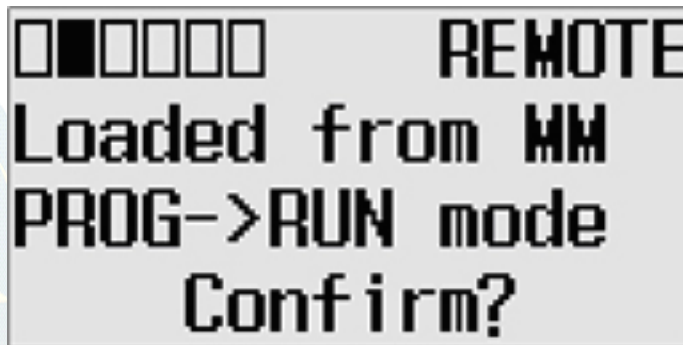

Figure 9 Run Mode Confirm Screen
8. If the controller is already in a non-executing mode, once the load from MM is complete, the “Change to Run Mode” screen will appear (refer to Figure 9 Run Mode Confirm Screen).
9. If it is in an executing mode (i.e. “RUN” or “REMOTE”), the “Change Mode Screen” will appear (refer to Figure 9 Change Mode Screen) once the Load command is selected.